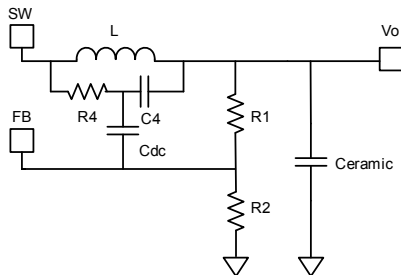

Figure12—Simplified Circuit of Ceramic Capacitor with DC blocking capacitor
Using equation (14) to calculate the R1 can be complicated. To simplify the calculation, a DC-blocking capacitor C_{dc} can be added to filter the DC influence from R4 and R9. Figure 12 shows a simplified circuit with external ramp compensation and a DC-blocking capacitor. With this capacitor, R1 can easily be obtained by using the simplified equation for PWM mode operation: